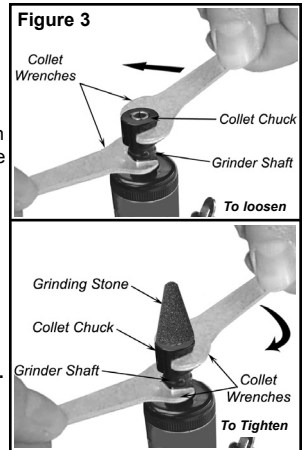

Figure 3
- Loosen the collet chuck with the collet wrenches (included with your tool) by placing one collet wrench on the flats of the grinder shaft to hold it from turning. Place the other collet wrench on the flats of the collet chuck and turn counter-clockwise to loosen (see figure 3).
- Loosen the collet chuck with the collet wrenches (included with your tool) by placing one collet wrench on the flats of the grinder shaft to hold it from turning. Place the other collet wrench on the flats of the collet chuck and turn counter-clockwise to loosen (see figure 3). Remove the collet chuck from the tool.